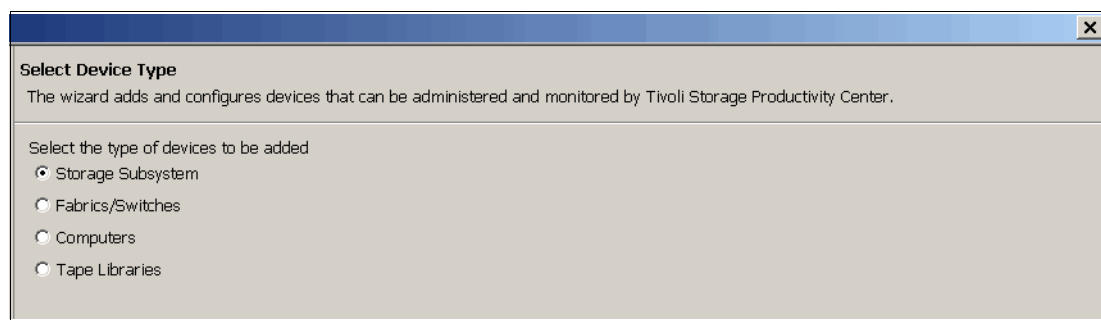
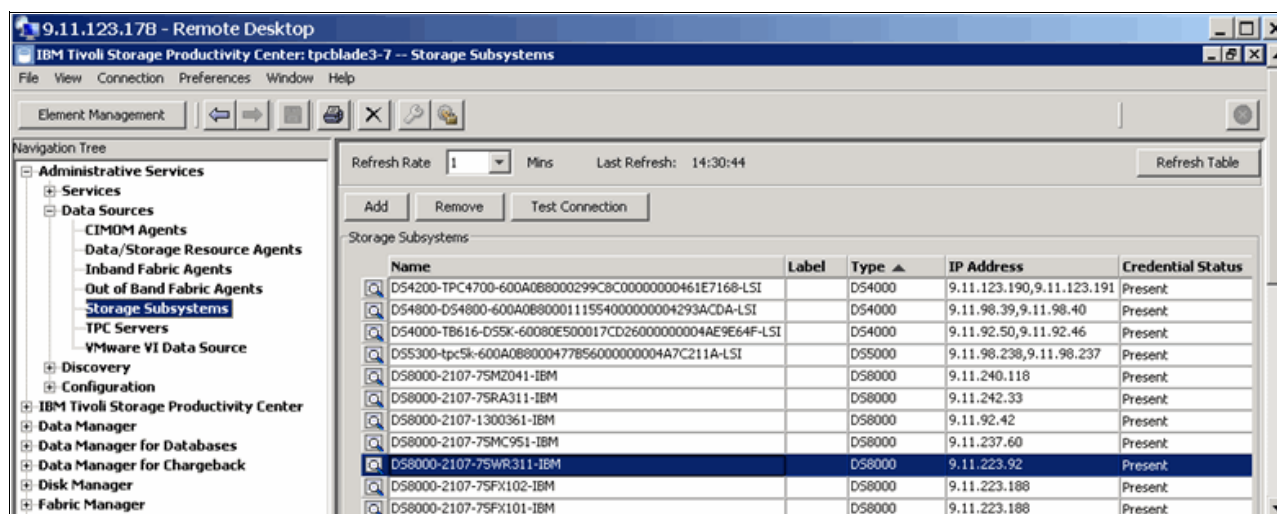

Figure 12-9 Select Device Type window
Figure 12-10 Add and configure DS8000 from Administrative Services
2. From the Select Device Type window, click **Storage Subsystem** and click **Next** (Figure 12-9).
Tip: You can also access the window shown in Figure 12-9 in the left menu panel navigate to **Administrative services** → **Data sources** → **Storage subsystems** and click the **Add** button (Figure 12-10).